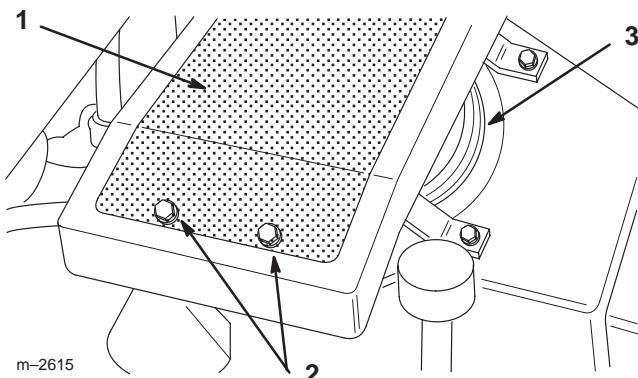

Figure 26
- Remove oil cooler from the engine (Fig. 26). Save all mounting hardware.
- Blow out fins of oil cooler and area between fins and screen with compressed air. If area between screen and fins is tightly packed, remove oil cooler from screen. Removing two retaining screws (Fig. 26). Save all mounting hardware.
- Clean off engine air intake (Fig. 26).
- Install oil cooler onto engine with previously removed hardware (Fig. 26).